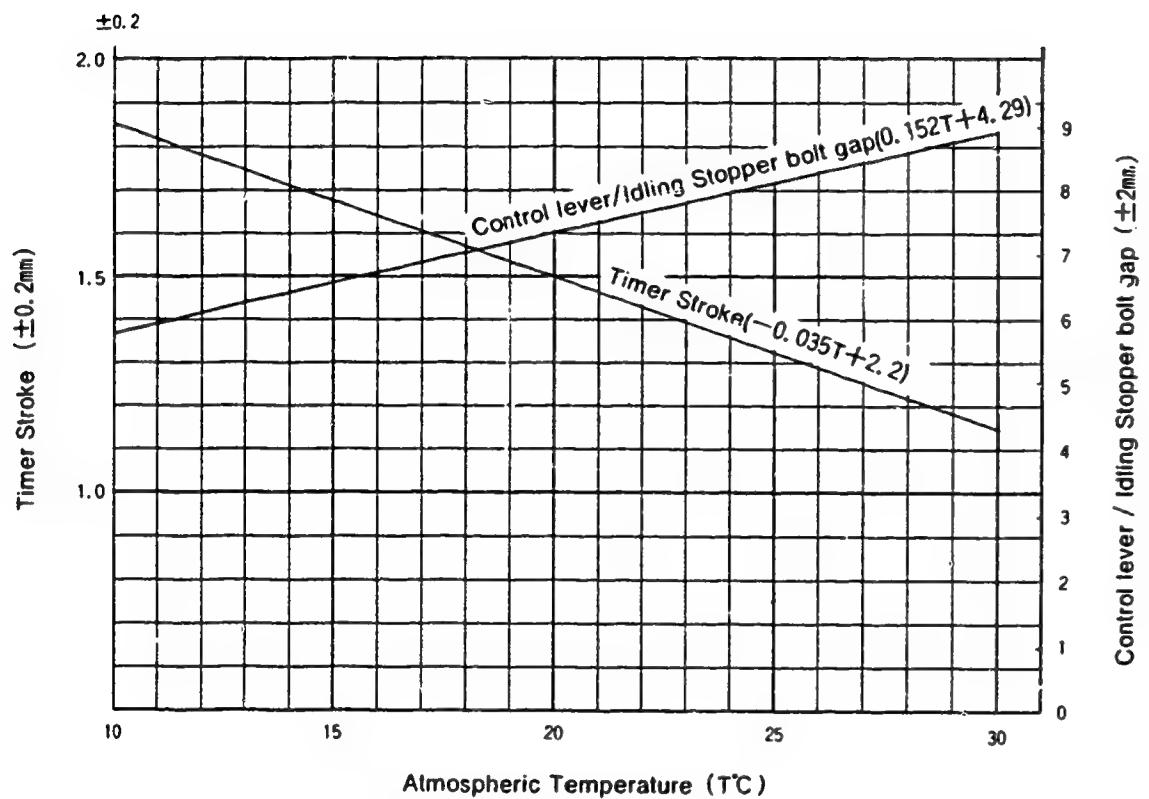

Fig 2
① Using the graph (Fig 2), determine the Timer stroke according to the atmospheric temperature at the time of adjustment.
② Adjust using the Timer Stroke adjusting bolt so that the Timer Stroke corresponds to the value determined in note ① above.
① Insert a block gauge of 5.3 ± 0.05 mm thickness in the gap between the control lever and the idling stopper bolt.
② From Fig 2 determine the dimension of the gap between the idling lever pin and the control lever according to the atmospheric temperature at the time of adjustment.
③ Adjust using the fast idle adjusting screw so that the gap corresponds to the value determined in note 2) ② above.